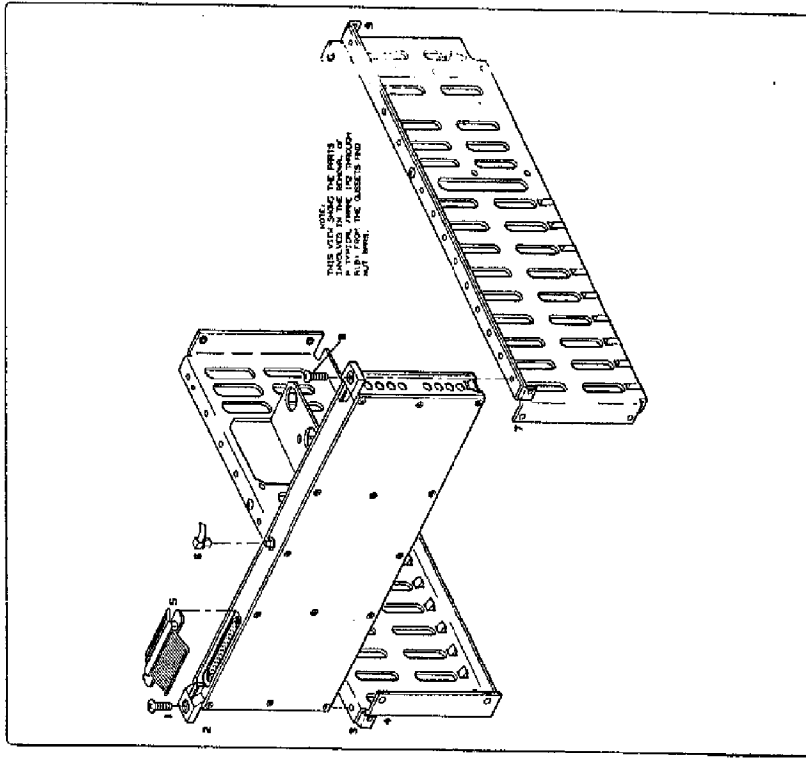

Figure 8-33. Frame Removal
- a. The following procedure in conjunction with Figure 8-33 Frame Removal is used for the removal of a typical frame.